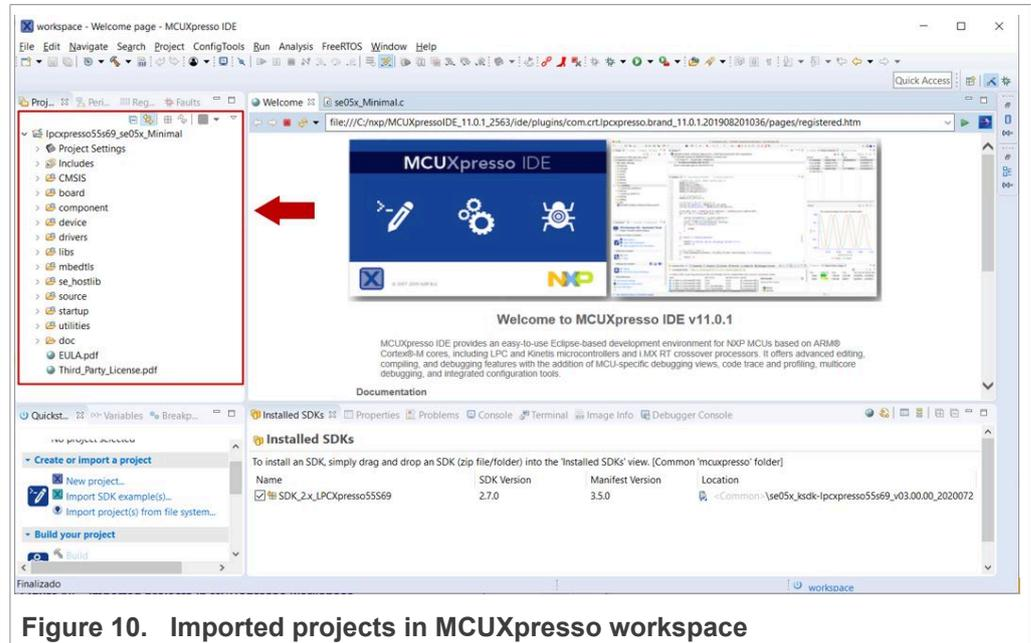

Figure 10. Imported projects in MCUXpresso workspace
- The projects you selected should now be visible in your MCUXpresso workspace as shown Figure 10: